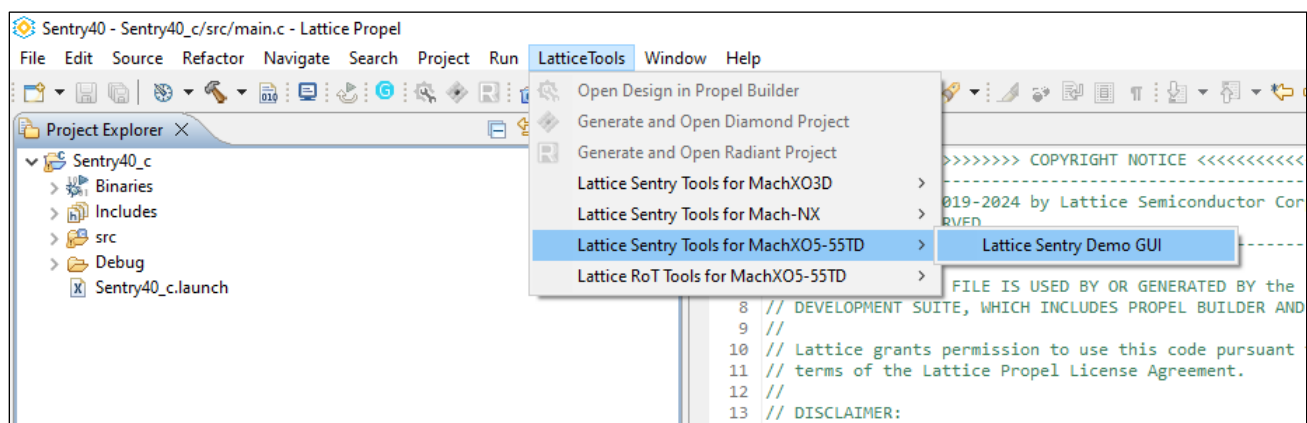

Figure 9.4. Launch Lattice Sentry Demo GUI
4. From the menu, select **Lattice Tools -> Lattice Sentry Tools for MachXO5-55TD -> Lattice Sentry Demo GUI** (Figure 9.4).